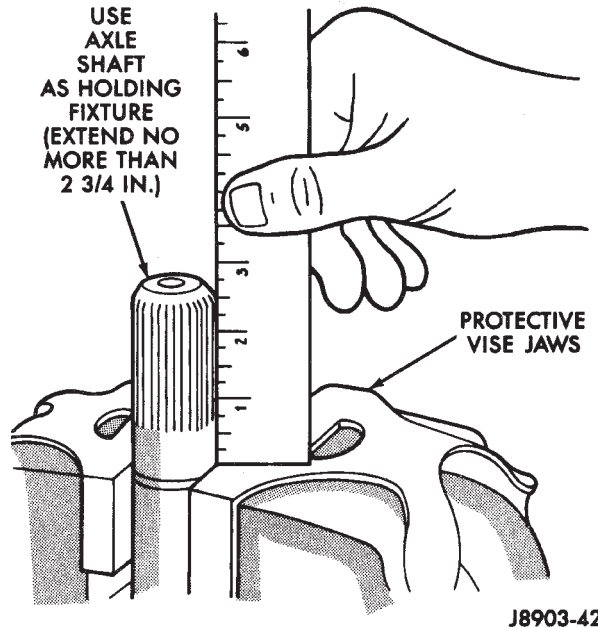

Fig. 4 Axle Shaft As Holding Fixture
(1) Clamp one axle shaft in a vise equipped with soft jaws (Fig. 4).